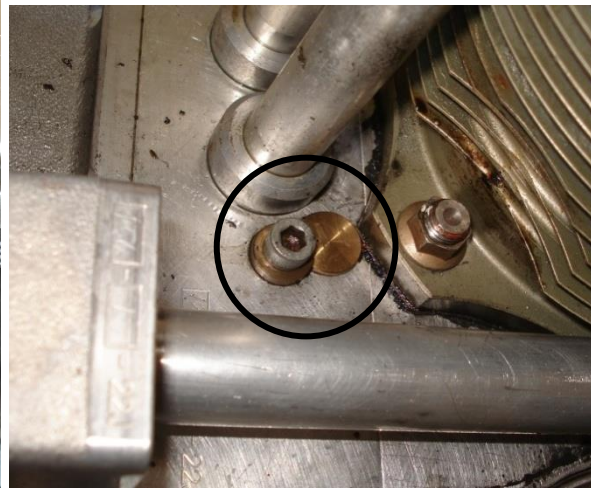

Figure 196 – Rocker Lube (Left) & Crankcase Oil Port Blanking Plug
7. Fit the pushrod tubes (2) to the crankcase.
8. If the engine uses an external oil feed pipe this must be fitted between the cylinders. It should be fitted but the clamps not tightened until all the heads are fitted. For later specification engines which use the pushrod tubes to feed oil to the rocker gear this step is omitted. Note that if an engine has been converted from the external oil feed to the new hollow pushrod oil feed it will be necessary to fit blanking plugs to the old oil feed holes in the sides of the crankcase as shown in Figure 196. Solid lifter engines must use the external oil feed tube system.